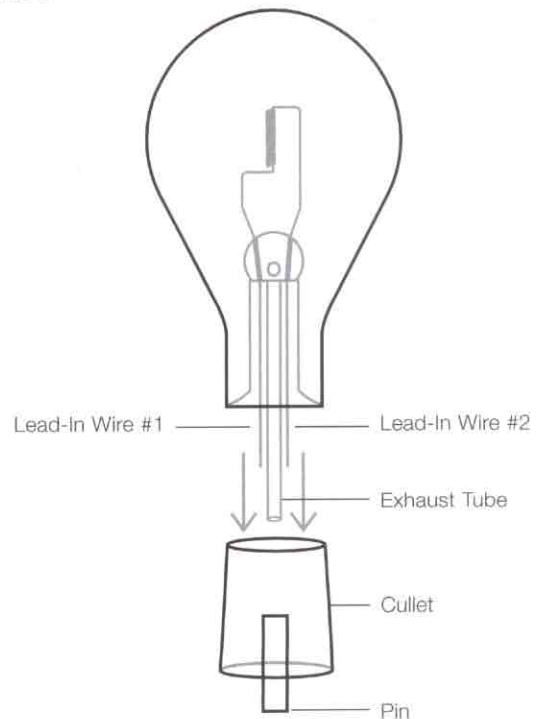

Figure 6
on the turret. As the two are fused into one, the extra glass at the base of the bulb, the cullet, is dropped down around a pin (figure 6). Later, this pin is withdrawn and the cullet is blown into an excess glass container and recycled. As cullet is being disposed, the hot end of the bulb is shaped in a mold to ensure a better fit with a metal base that will be attached later. The aesthetics of the bulb contour above the base are improved in the process.
- *Lead-in wire #1:* The first section, which is adjacent to the exhaust tube and later outside the sealed bulb (figure 6), is copper about 2" long. The second section is Dumet (dual metal), a nickel-iron alloy core with a copper sleeve that has a coefficient of expansion equivalent to that of glass. The third part, which clamps the filament, is nickel, nickel plated copper or sometimes copper about 2" long.